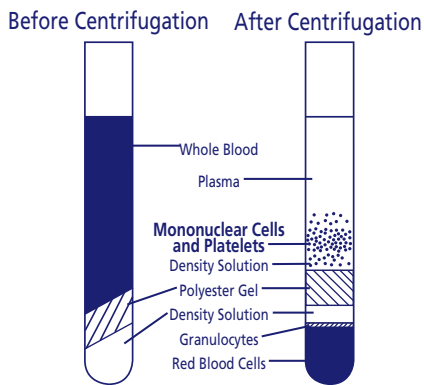

Figure 2
5. After centrifugation, mononuclear cells and platelets will be in a whitish layer just under the plasma layer (see Figure 2). Aspirate approximately half of the plasma without disturbing the cell layer. Collect cell layer with a Pasteur pipette and transfer to a 15 mL size conical centrifuge tube with cap. Collection of cells immediately following centrifugation will yield best results.